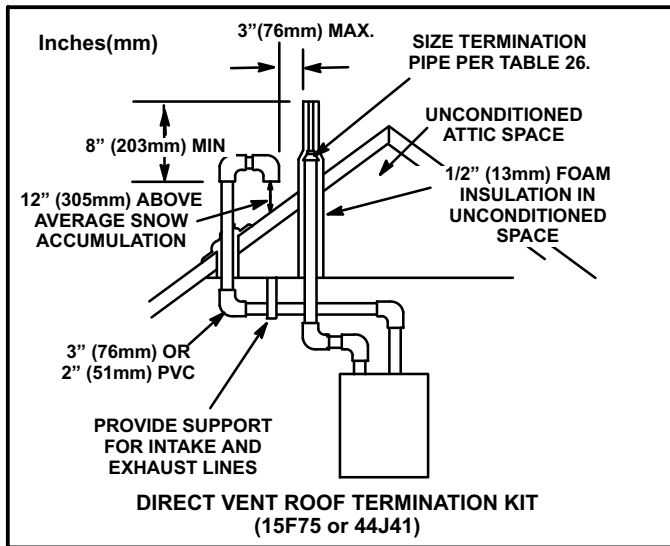

FIGURE 29
Intake and exhaust pipes may be routed either horizontally through an outside wall or vertically through the roof. In attic or closet installations, vertical termination through the roof is preferred. Figures 29 through 37 show typical terminations.
3. On roof terminations, the intake piping should terminate straight down using two 90° elbows (See figure 29).